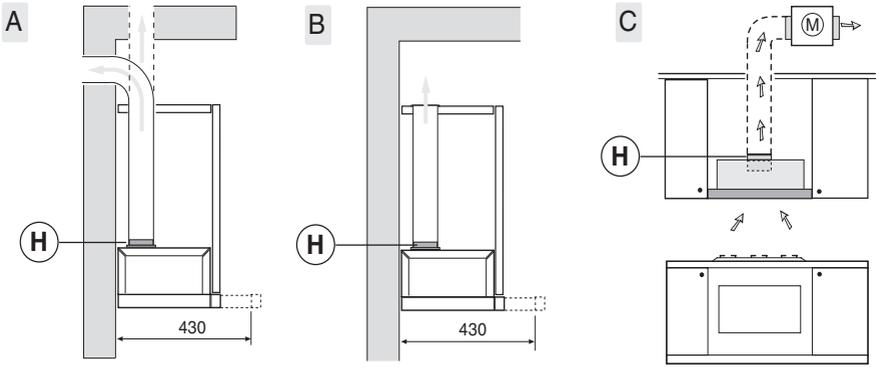
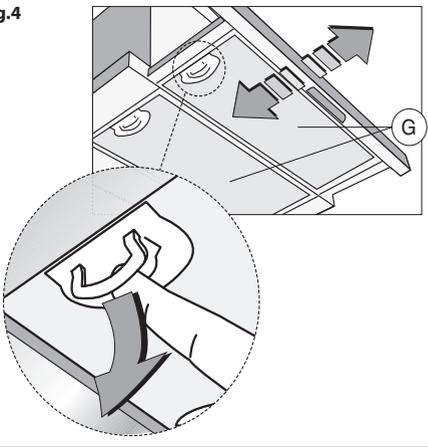

Fig.4
Fig.5
• The minimum distance between the support surfaces of the cooking pots on the cooker top and the lowest part of the cooker hood must be at least **65 cm**. If a connection tube composed of two parts is used, the upper part must be placed outside the lower part. Do not connect the cooker hood exhaust to the same conductor used to circulate hot air or for evacuating fumes from other appliances generated by other than an electrical source. Before proceeding with the assembly operations, remove the anti-grease filter(s) (Fig.4) so that the unit is easier to handle.
To transform the cooker hood from the extraction version to the recirculating one ask your supplier for an activated carbon filter. The filter must be fitted to the extracting group cooker hood in the centre of the fan grille by twisting it by 90 degrees until it is gripped securely (Fig.5). For this operation remove the anti-grease filter(s) **G** (Fig.4). The clean air is returned into the room through a connecting tube passing inside the cupboard and connected to the ring **H** (Fig.3B).